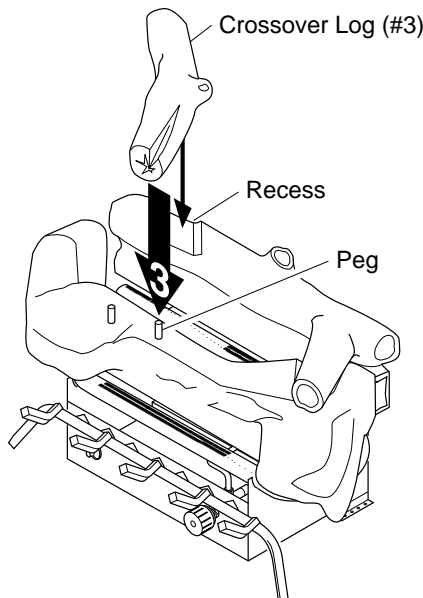

Figure 24 - Installing Crossover Log (#3)
3. Place crossover log (#3) onto the pin (right) on middle log (#1) and into the recess of the back log (#2) (see Figure 24).